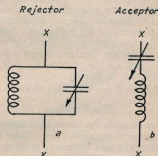

FIG. 5
A parallel circuit consists of an inductance and a capacity in parallel as shown at (a), Fig. 5, with the source of alternating potential applied at the points marked (X). This circuit will have a resonant point at some wave-length determined by the values of in-
The series circuit shown at (b), Fig. 5, consists of a coil and a condenser